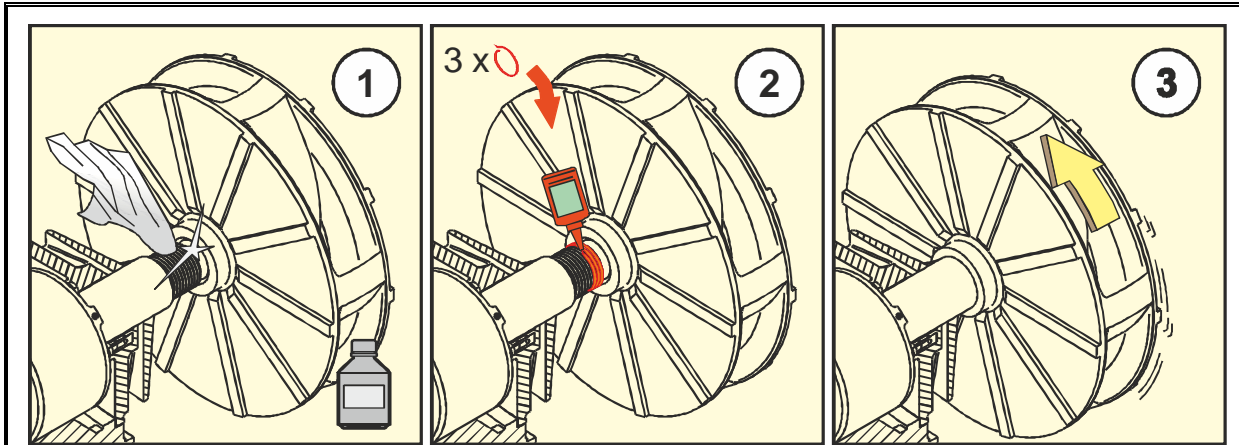

Figure 9.5.2-C Special procedure applicable **ONLY** to pumps driven by internal combustion engines
- h) Lift impeller as shown in Figure 9.5.2-A and mount it onto the shaft end. For internal combustion engine driven pumps, see special procedure in Figure 9.5.2-C.